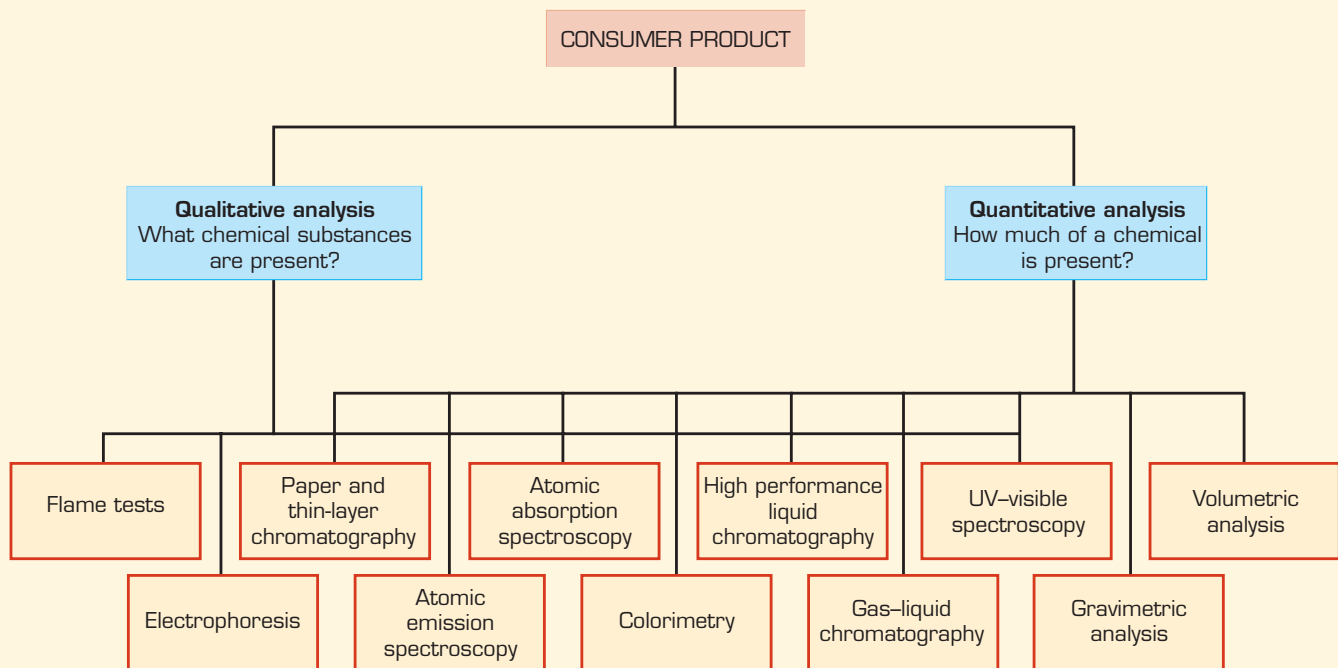

figure qc.2 Consumer products can be analysed by various techniques.
***** Chapter 13 **Volumetric and gravimetric analysis** (page 456) and Chapter 14 **Instrumental and specialised techniques** (page 488) describe the techniques of figure qc.2.
The term for checking consumer goods to ensure efficient production methods and suitable quality is known as quality control. The chapters of this area of study have outlined some of the techniques used in quality control analyses. The techniques are summarised in figure qc.2.